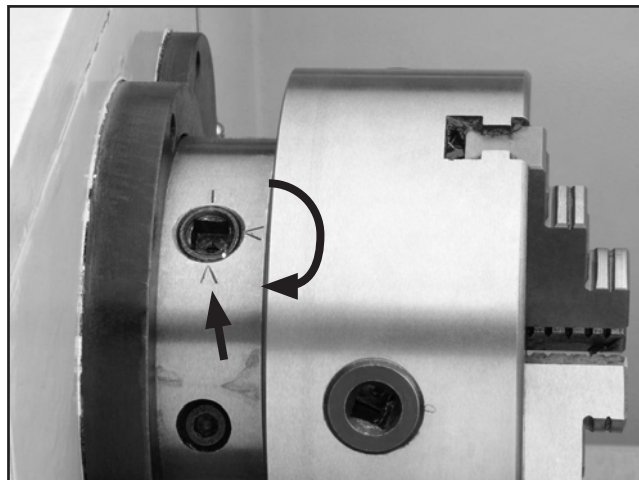

Figure 19. Tightening the cam-locks.
8. Tighten each cam-lock clockwise until you feel the cam-lock engage the cam-lock stud. Continue to turn until you can't turn any further. You will see the chuck body draw-up to the spindle nose. Ideally the cam-lock mark will fall between the two pointed arrows on the spindle nose (see **Figure 19**).